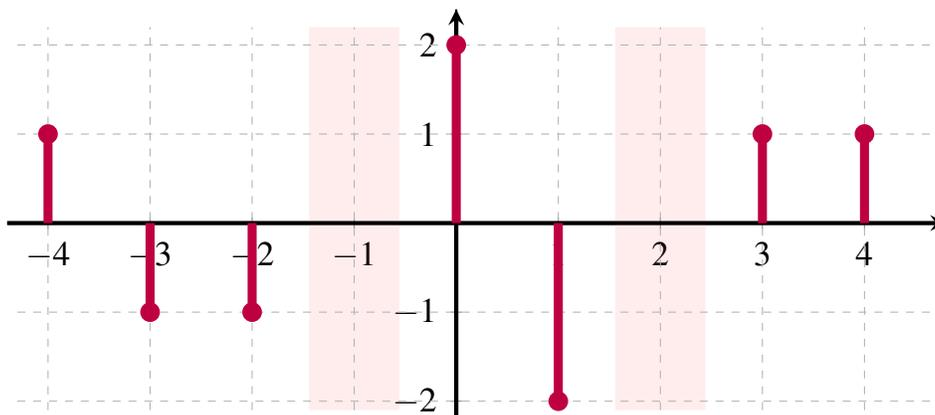

Figure 11: Linear cross-correlation plot of the two signals $\text{Corr}_{\vec{s}_1}(\vec{s}_2)$. The x-axis represents the shift.
- (a) (6 points) We have two signatures/gold codes of length-5, given by \vec{s}_1 and \vec{s}_2 as in Figure 11. So far we have numerically computed their linear cross-correlation $\text{Corr}_{\vec{s}_1}(\vec{s}_2)$, yet a few entries have been tragically lost! Fortunately we can compute these omitted terms by hand. **Please compute the missing cross-correlation values at shifts $k = -1$ and $k = +2$. Show your work and justify your answer.**